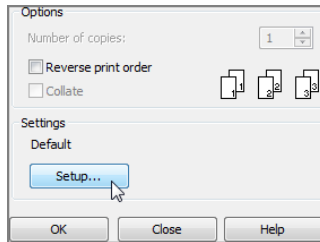

FIGURE 14.32: Clicking the Setup button
10. In the lower-right corner in the Settings area, click the Setup button, as shown in Figure 14.32.